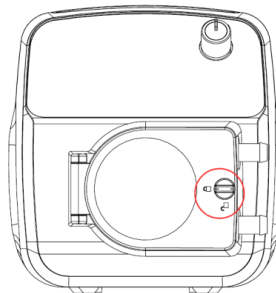

Figure 3
- 3) After replacing the tube, close the pump head cover, and screw the lock knob of the pump head cover to locking position as shown in Figure 3.